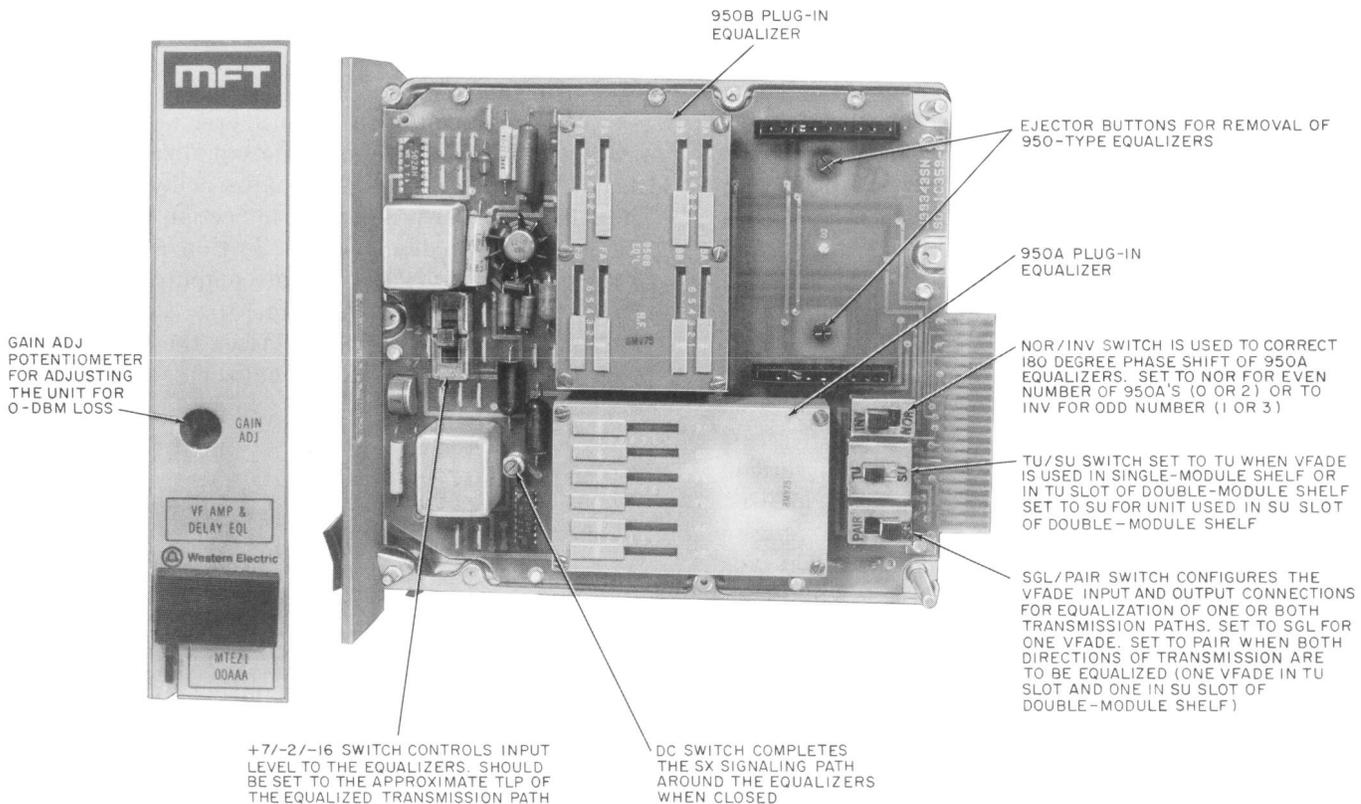

Fig. 1—Voice-Frequency Amplitude and Delay Equalizer—J99343SN
2.01 The VFADE (Fig. 1) is identical in size to all other MFT plug-ins. It may be used in single-module shelves or in either slot of the double-module shelves by operating the proper slide switches.